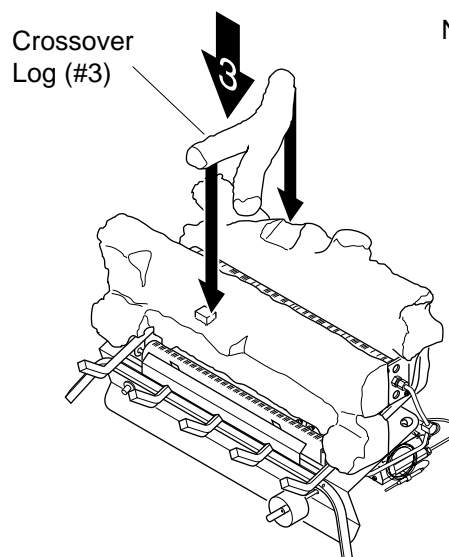

Figure 24 - Installing Crossover Log
3. Place crossover log (#3) into place (see Figure 24). Be sure to place back of crossover log into notch on left side of rear log. The indentation under front right fork of crossover log must rest on rectangular knob of front log.